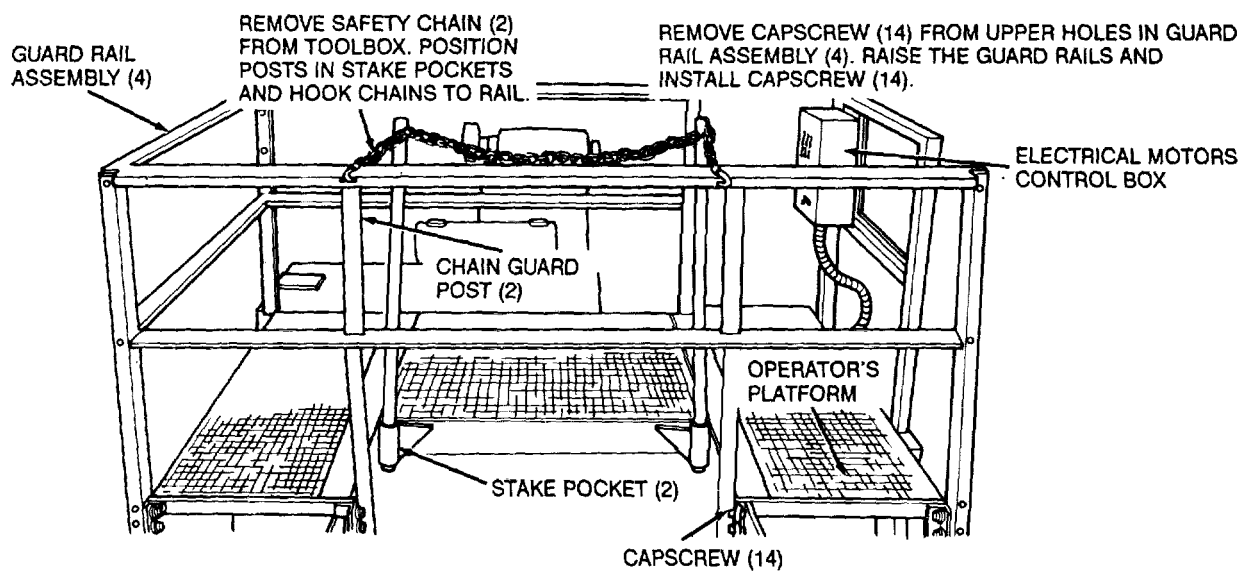

Figure 14. Operator's platform guard rails, installed view.
- i. Raise and secure the operator's platform guard rails (fig. 14).
- j. Remove the jaw pit guard and chain from the toolbox (fig. 1) and install on operator's platform (fig. 14).
- d. Remove necessary mounting hardware from the operator's platform guard rails (fig. 14) to permit the guard rails to be lowered to the transport position (fig. 18).